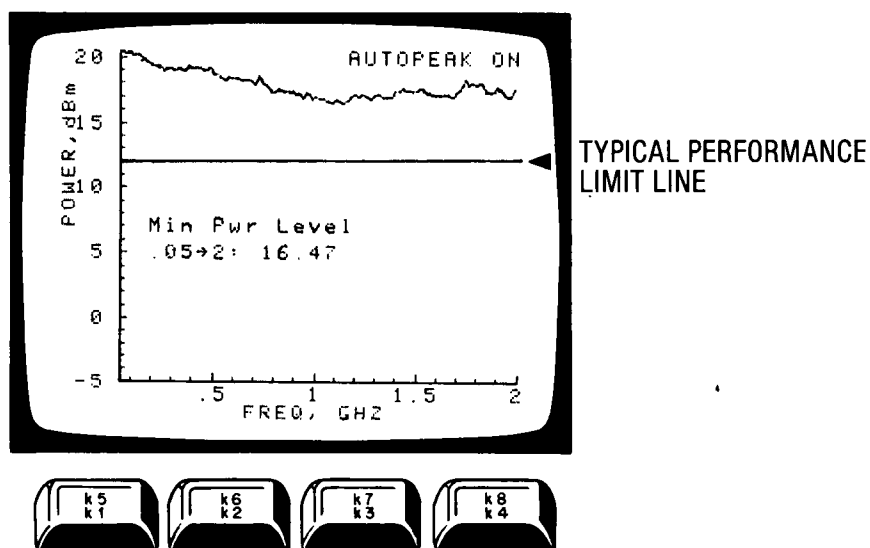

Figure 8-23. HP 8673C/D Low Band Power Plot
55. Compare the plots taken in Step 54 with the corresponding plots in Figures 8-23 through 8-25. There are three possible results:
- a. The plots taken in Step 54 are essentially the same as the corresponding plots in Figures 8-23 through 8-25. If this is the case proceed with AM/ALC CHECK beginning with Step 56.